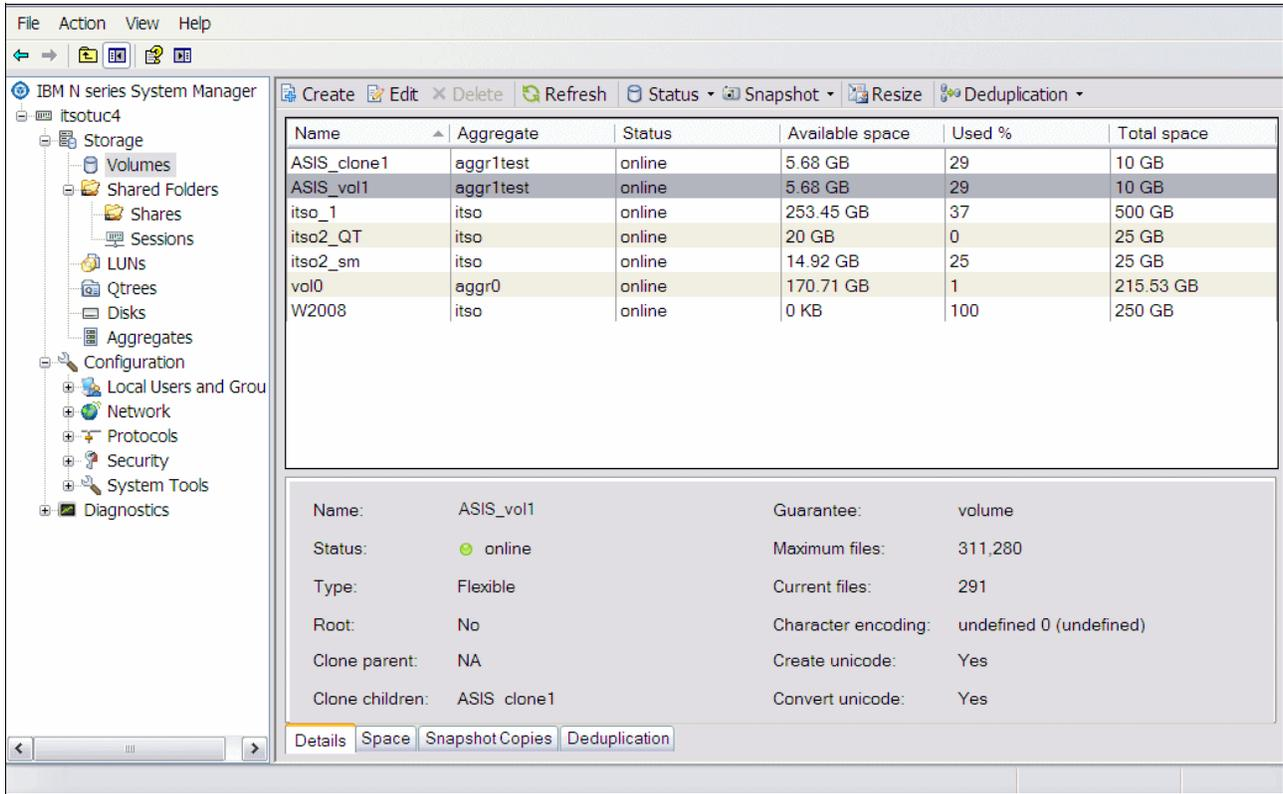

Figure 7-15 FlexClone display
3. Click **Create**. The result is shown in Figure 7-15 on page 214, where a new volume is already available: the ASIS\_clone1. This resource has the same characteristics as its parent, as shown in the figure.